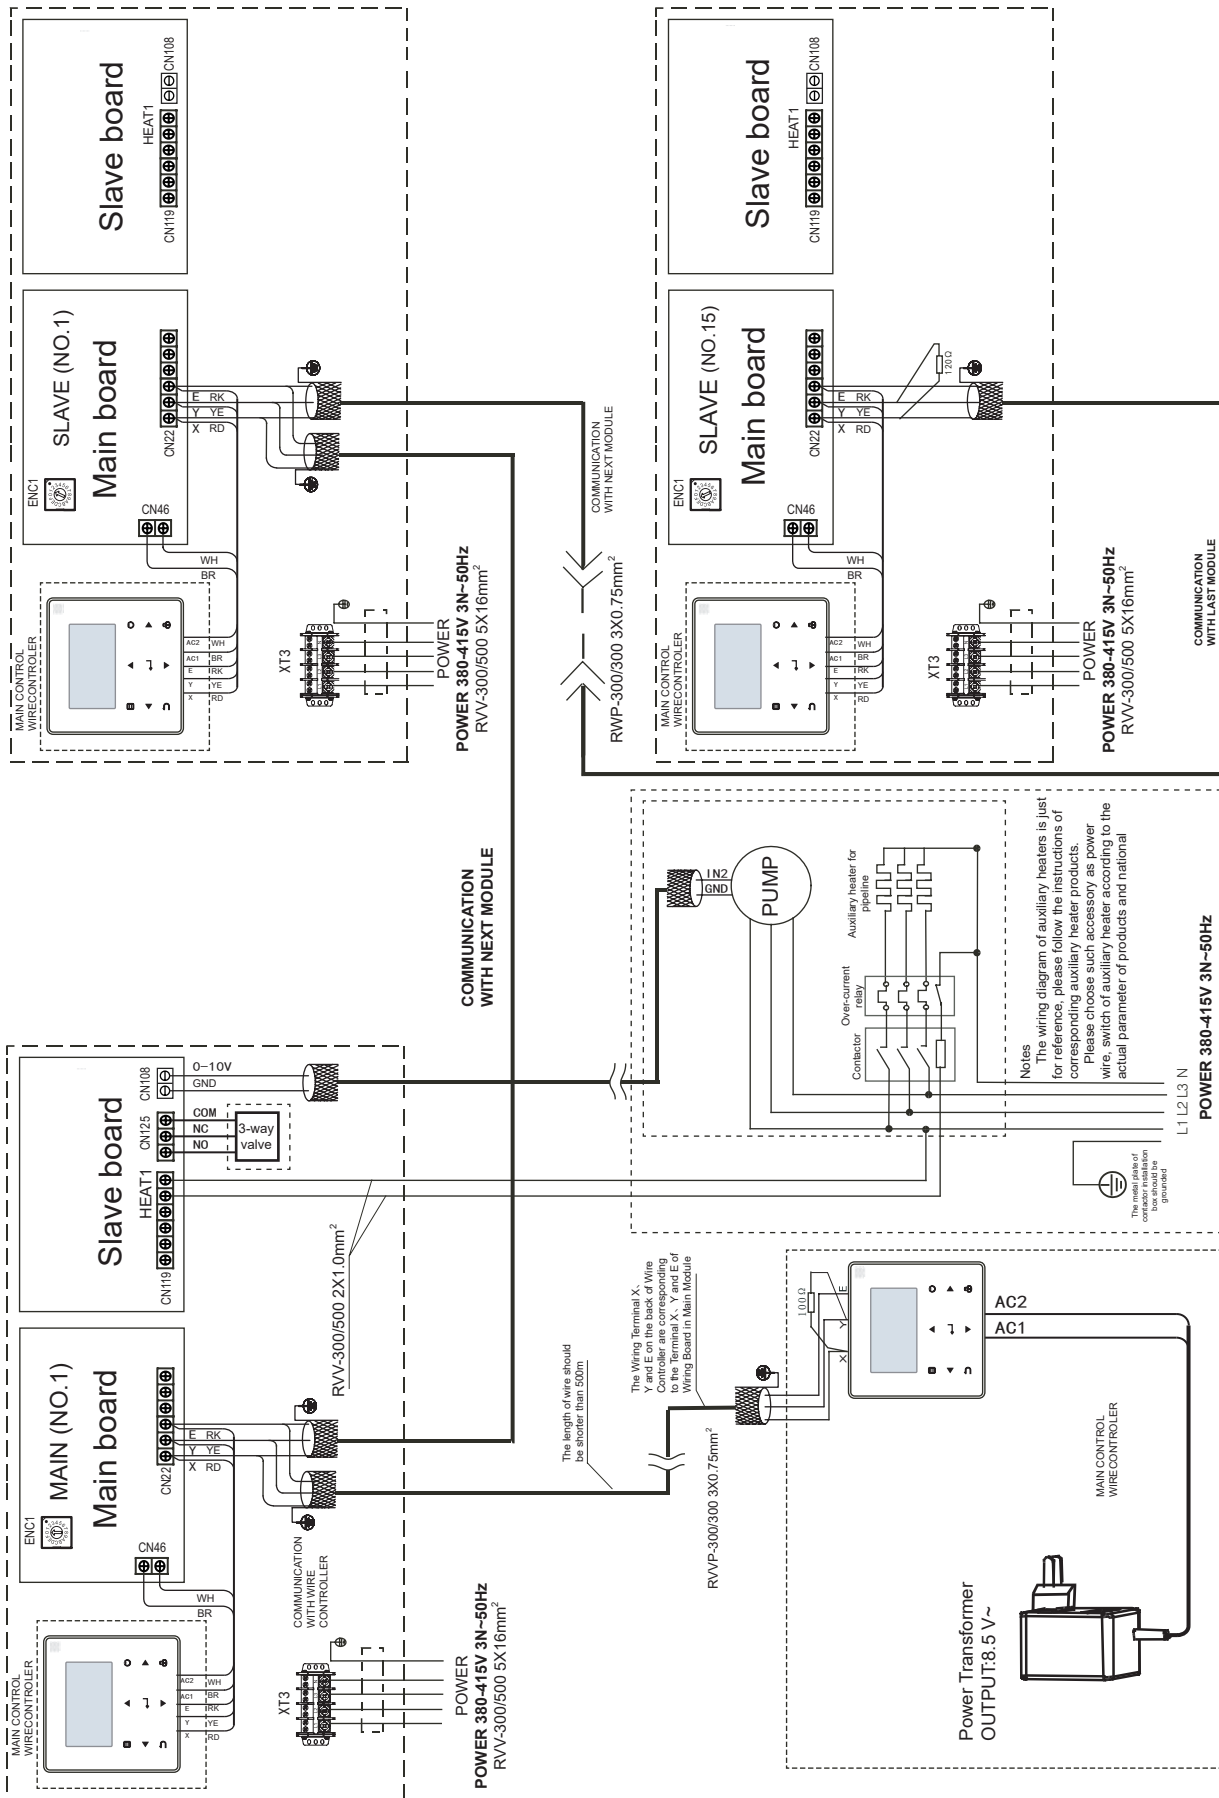

Fig. 8-18 Networking communication schematic of main unit and auxiliary unit for 110KW
c) Units must with a main unit controls (Please see Fig. 8-18 for the controls wiring diagram) .